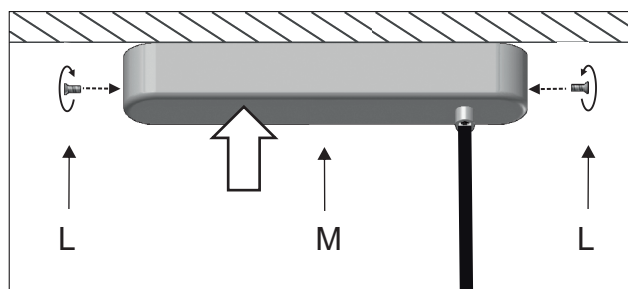

Figure 9
Place the canopy (L) back in place and fasten the side screws (M). Figure 9.